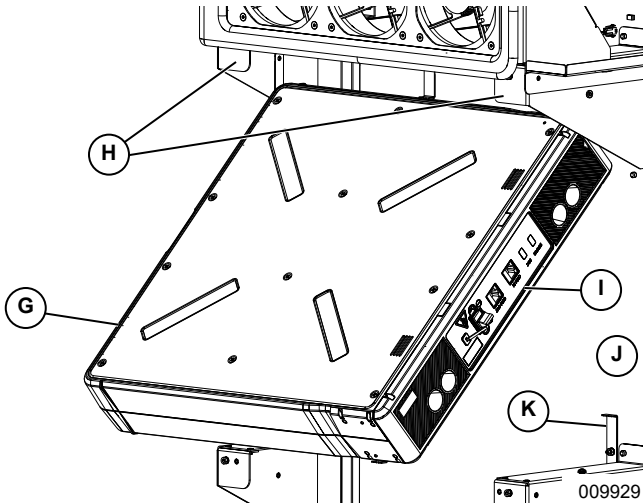

Figure 4-7. Installing Rear Battery Modules
1. See Figure 4-7. Angle top of battery module (G) under and behind bracket lip (H).